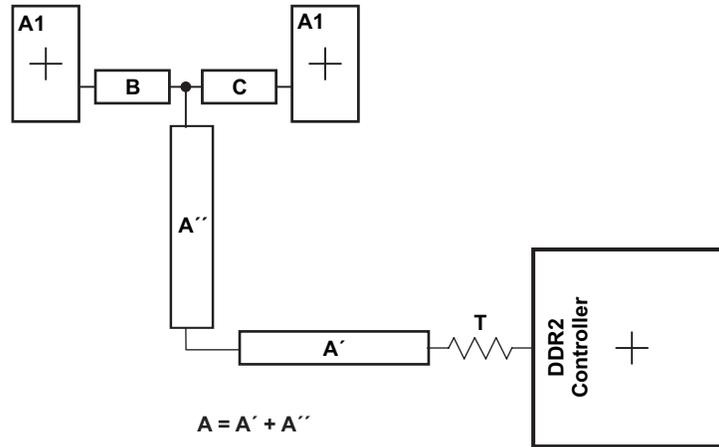

Figure 8-52. CK and ADDR_CTRL Routing and Topology
Figure 8-52 shows the topology of the routing for the CK and ADDR_CTRL net classes. The route is a balanced T as it is intended that the length of segments B and C be equal. In addition, the length of A ($A'+A''$) should be maximized.
- (1) The length of segment $A = A' + A''$ as shown in Figure 8-52.
- (2) Series terminator, if used, should be located closest to the processor.
- (3) Center-to-center spacing is allowed to fall to minimum (w) for up to 500 mils of routed length to accommodate BGA escape and routing congestion.
- (4) CACLM is the longest Manhattan distance of the CK and ADDR_CTRL net classes.